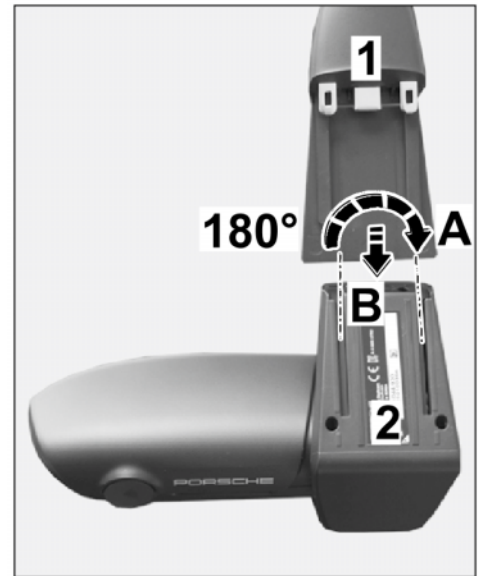

Figure 6
2.1.1 Install retainer plate with wire harness on the base of the front camera until the locking mechanism engages (⇒ *Figure 6*).